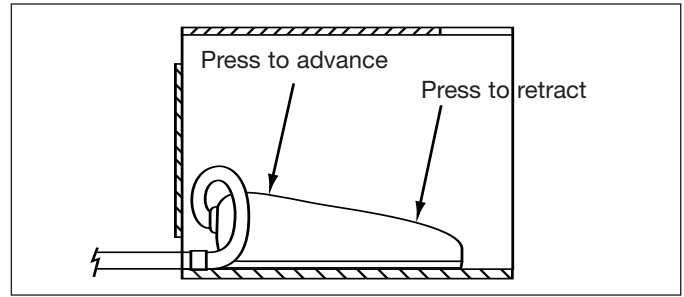

Figure 1
1. Press down on the cord end of the footswitch for advance and the opposite end for retract (see Fig. 1).